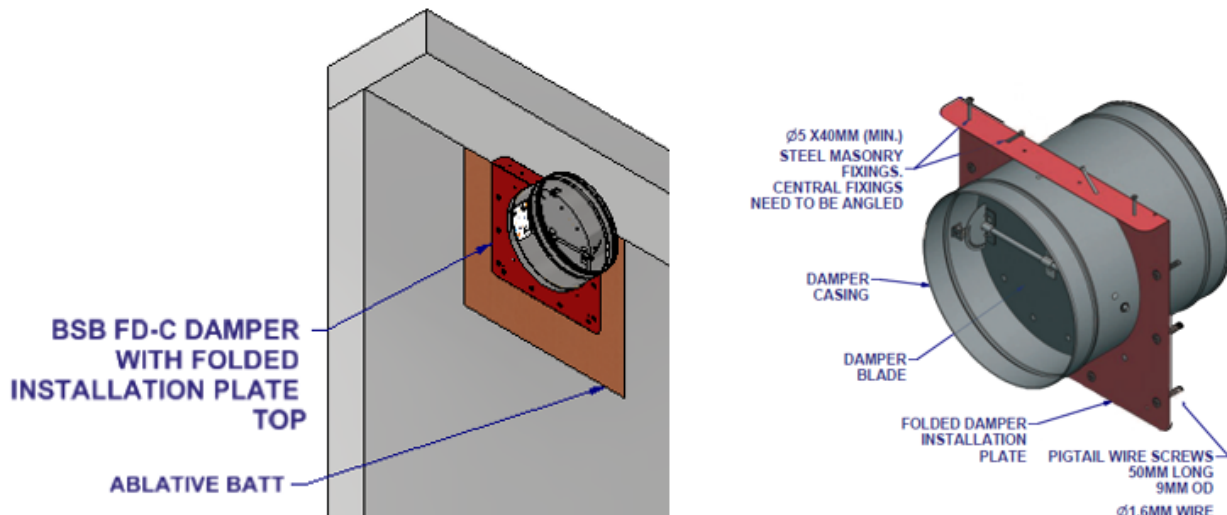

Fig 4
- 8.1.2 The damper should be installed within and affixed to the top of the aperture as shown in figure 4.